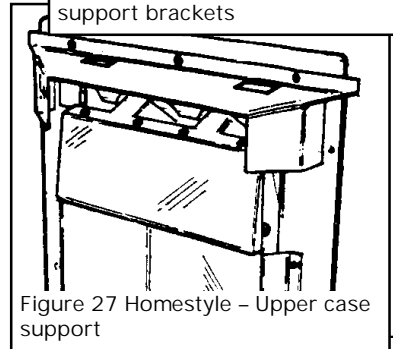

Figure 27 Homestyle - Upper case support
**9.2.2** Fit the upper case support to the top of the convection box with the three screws provided. Insert the screws from the back of the appliance. See figure 27.